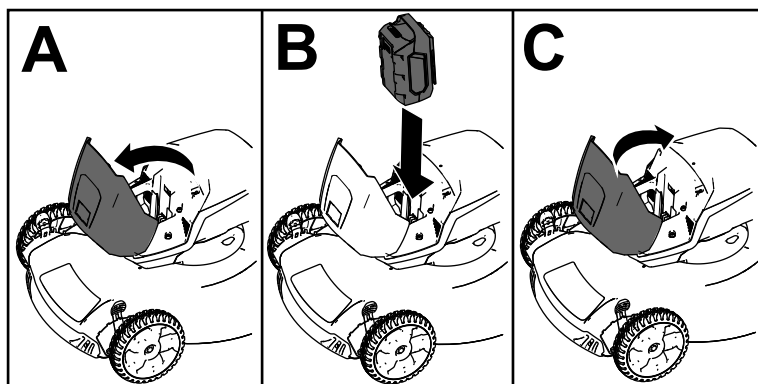

Figure 9
2. Lift up the battery-compartment lid (A of Figure 9).
3. Line up the cavity in the battery pack with the tongue on the machine and slide the battery pack into the compartment until it locks into place (B of Figure 9).
4. Close the battery-compartment lid (C of Figure 9).